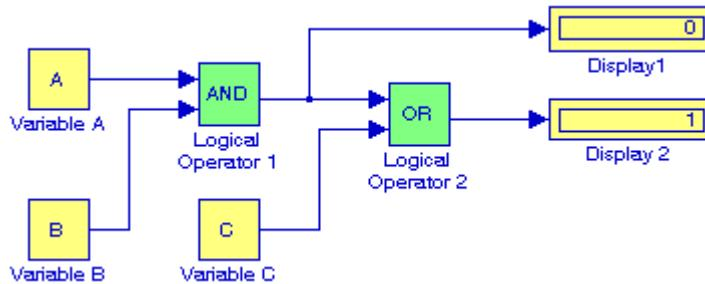

Figure 2.22. Model for Example 2.12
The model shown in Figure 2.22 simulates the Boolean expression $D = A \cdot B + C^*$ where the dot denotes the ANDing of the variables A, B, and the plus (+) sign denotes the ORing of A · B with C. The blocks indicated as Variable A, Variable B, and Variable C are Constant blocks. We specify the values A = 1, B = 0, and C = 1 in MATLAB's Command Window, and after exe-
* The ANDing operation has precedence over the ORing operation. For instance, the Boolean expression $A \cdot B + C$ implies that A must first be ANDed with B and the result must be ORed with C as shown in Figure 2.22. The dot symbol between A and B is often omitted. For a detailed discussion on Boolean expressions, please refer to *Digital Circuit Analysis and Design with an Introduction to CPLDs and FPGAs*, ISBN 0-9744239-6-3.